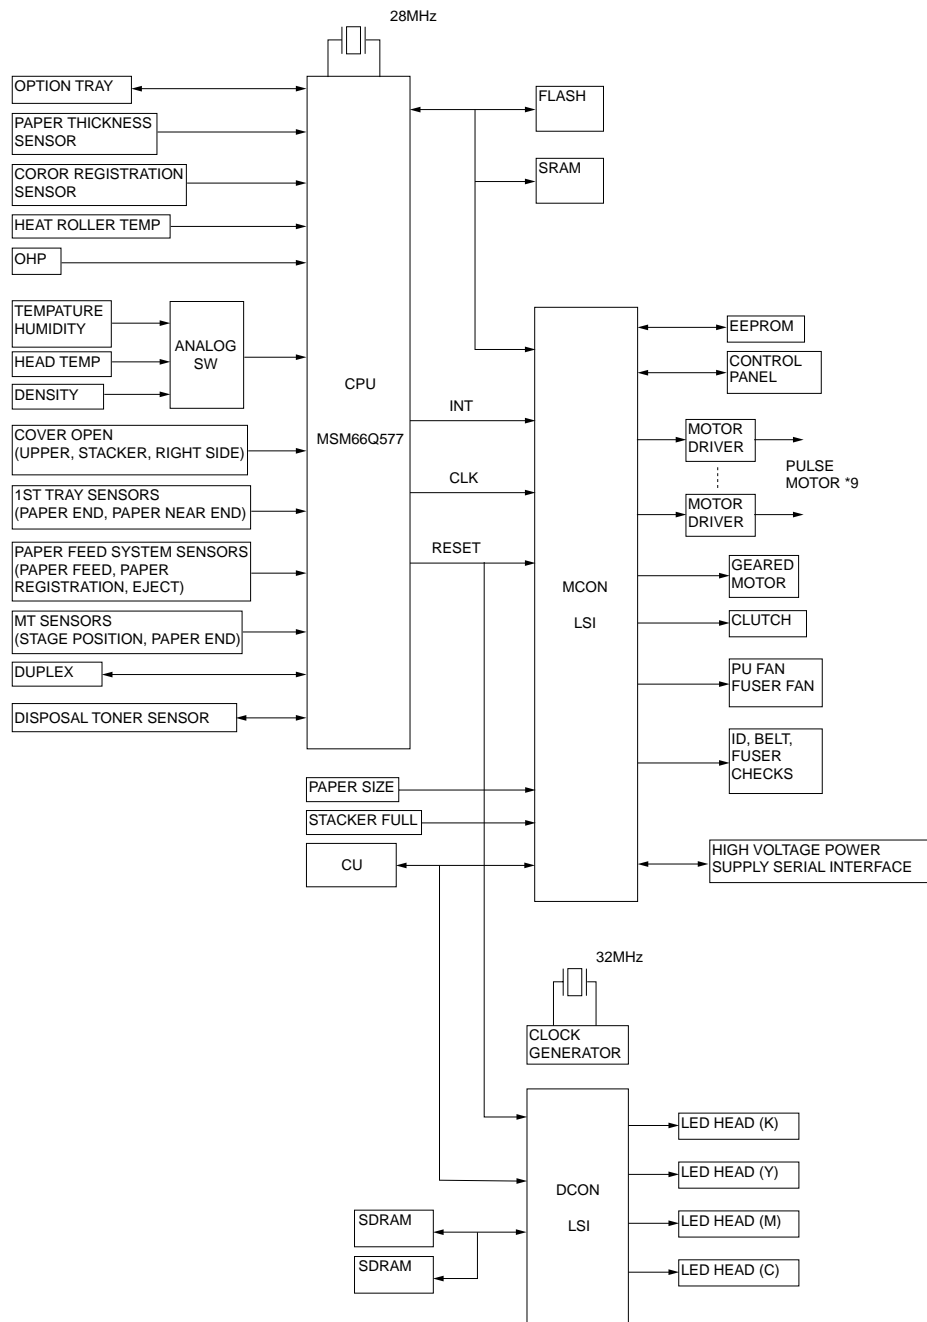

Figure 2-3
The engine control block (PU) is controlled by the engine controller board (K71 PWB) which consists of a CPU (MSM66Q577), general LSI chip, flash ROM, EEPROM, pulse motor drivers and a video memory (see Figure 2-3).
- (1) CPU